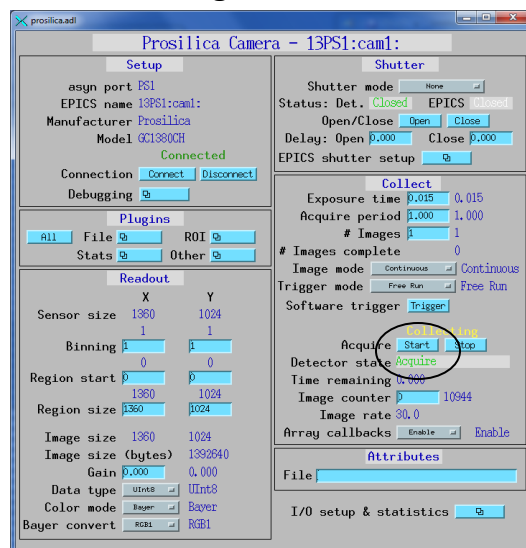

Fig. 2. The “medm” window
6. Click “start” in the “medm” window to acquire images (see Fig. 2).